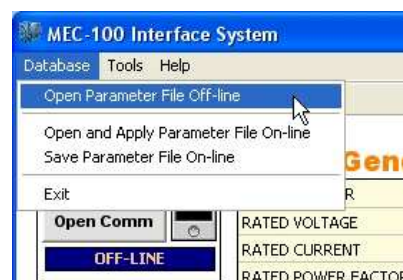

Fig. 5.6.3.a
- ❖ Click the *Database* button in the menu bar of the MEC-100 Interface System (see Fig. 5.6.3.a).